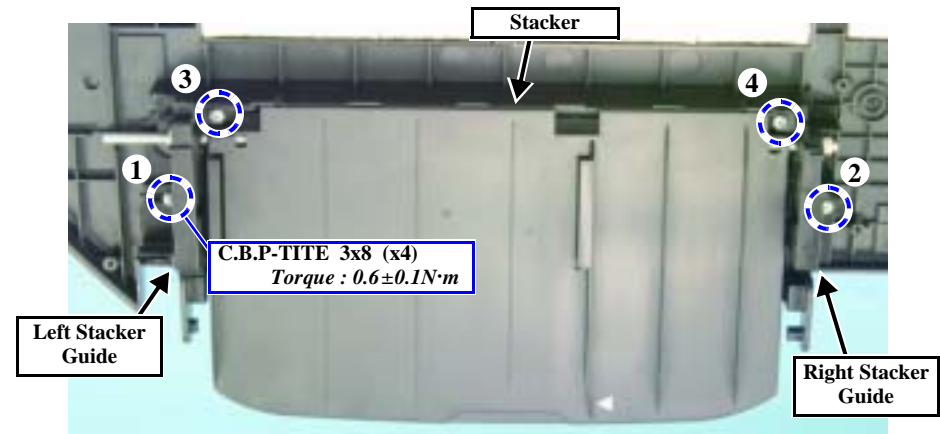

Figure 4-42. Removing the Stacker Assy
5. Remove the screws (x4) securing the Stacker Assy. (Fig. 4-42)
- Tighten the screws in the specified order. (Fig. 4-42)